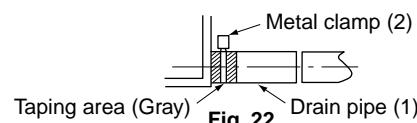
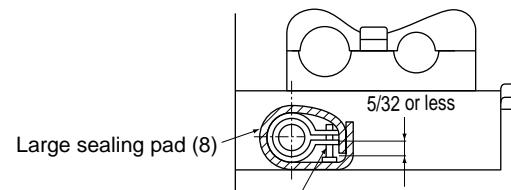

Fig. 22
Fig. 23 (Length : in.)
- Be sure to use the drain pipe (1) and metal clamp (2). Also, insert the drain pipe completely into the drain socket, and securely attach the metal clamp bracket inside the gray tape area on the inserted tip of the drain pipe. (Refer to Fig. 22) Screw the screws on the metal clamp bracket until there is 5/32 in. left. (Pay attention to the direction of the attachment to prevent the metal clamp bracket from coming into contact with the suction grille.) (Refer to Fig. 23)
- Insulate the metal clamp bracket and drain pipe from the bottom using the large sealing pad (8). (Refer to Fig. 23)
(2) Check to make sure the water flows smoothly after piping is complete.